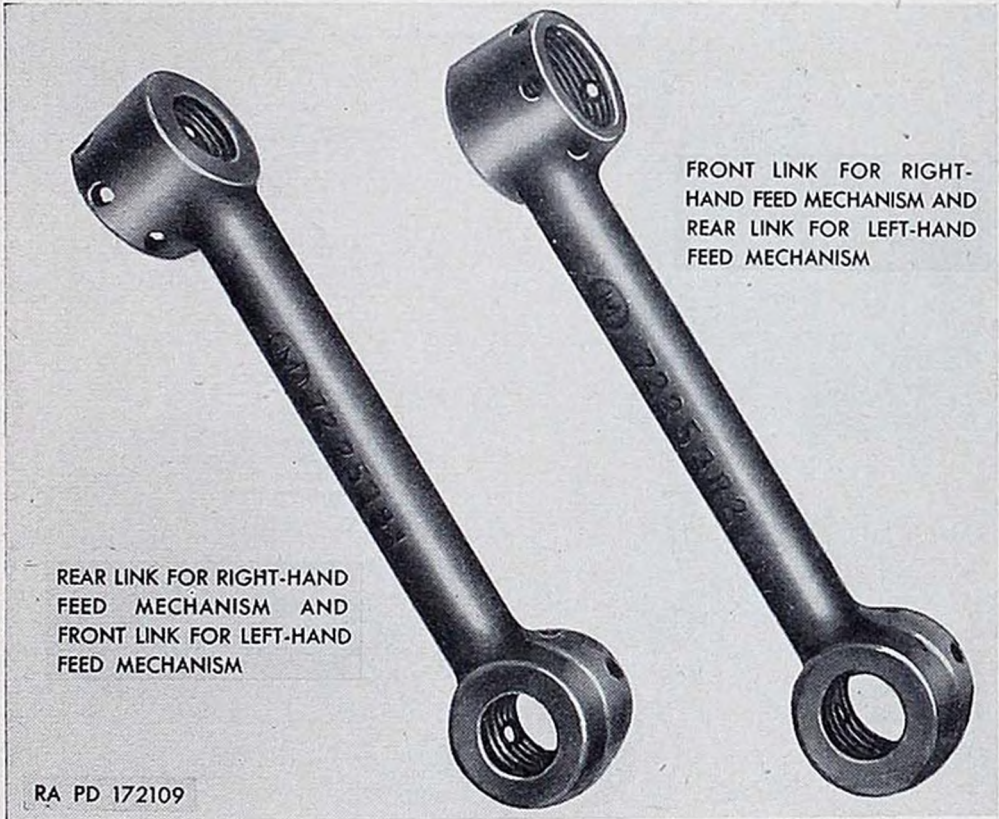

Figure 160. Links for left-hand and right-hand feed mechanisms.
- (2) For a right-hand feed mechanism, the front link is cupped downward at the lower end and to the right at the upper end, while the rear link is cupped downward at the lower end and to the left at the upper end, as shown in figure 160. For a left-hand feed mechanism, the front link is cupped downward at the lower end and to the left at the upper end, while
the rear link is cupped downward at the lower end and to the right at the upper end, as shown in figure 160. The front link of a right-hand feed mechanism is interchangeable with the rear link of a left-hand feed mechanism. In a like manner, the rear link of a right-hand feed mechanism is interchangeable with the front link of a left-hand feed mechanism.